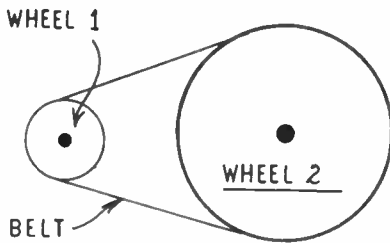

Fig. 3—Belt drives
The approximate ratio will be found by measuring the diameter of the wheels at the point where the belt runs. A typical drive is shown in Fig. 3. Division in the way described for approximate gear ratios will give the belt-drive ratio, and a few examples will make this clear. Here, (A) is the diameter of the small wheel (1 in Fig. 3) and (B) the diameter of the large wheel (2 in Fig. 3).
are the meter, and the on-off switch with appropriate wiring. Both switch and meter could be mounted on top of the chassis together with the other components, when a wooden base could be used, with resulting saving in labour and cost. For those who prefer the metal chassis, layout dimensions are given in Fig. 3, the material employed being 16 or 18 s.w.g. aluminium. All the smaller holes for mounting, etc., should be drilled before bending to shape. The large cut-out to house the meter should be made after bending to shape — e.g., by drilling around the periphery with a large number of small diameter holes and opening out into a continuous circular cut-out with a small file. The corners of the chassis are reinforced by angle strips, riveted in place.